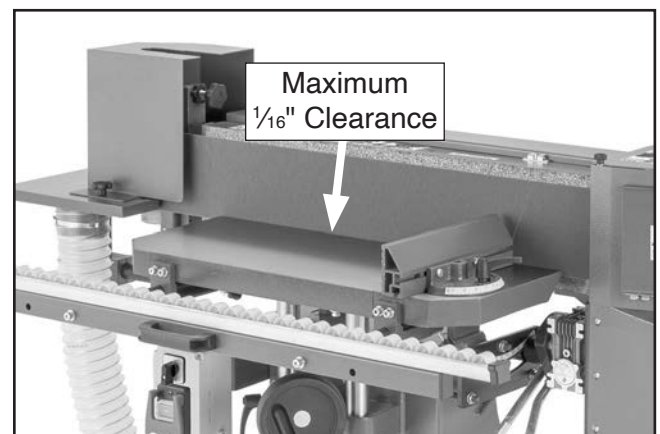

Figure 50. Main table adjusted to within $\frac{1}{16}$ " of sanding belt without touching.
3. Push main table closer to sanding belt until table is within $\frac{1}{16}$ " of sanding belt without touching (see **Figure 50**), then tighten main table clearance lock knob.